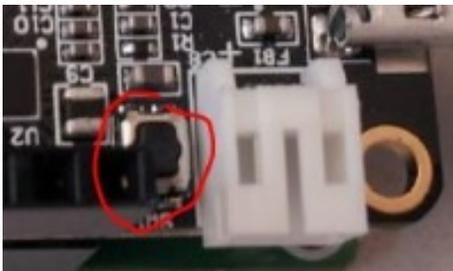

Figure 7. MAX32630FTHR host reset button.
- 7. Press the reset button on the MAX32630FTHR, as shown in Figure 7.